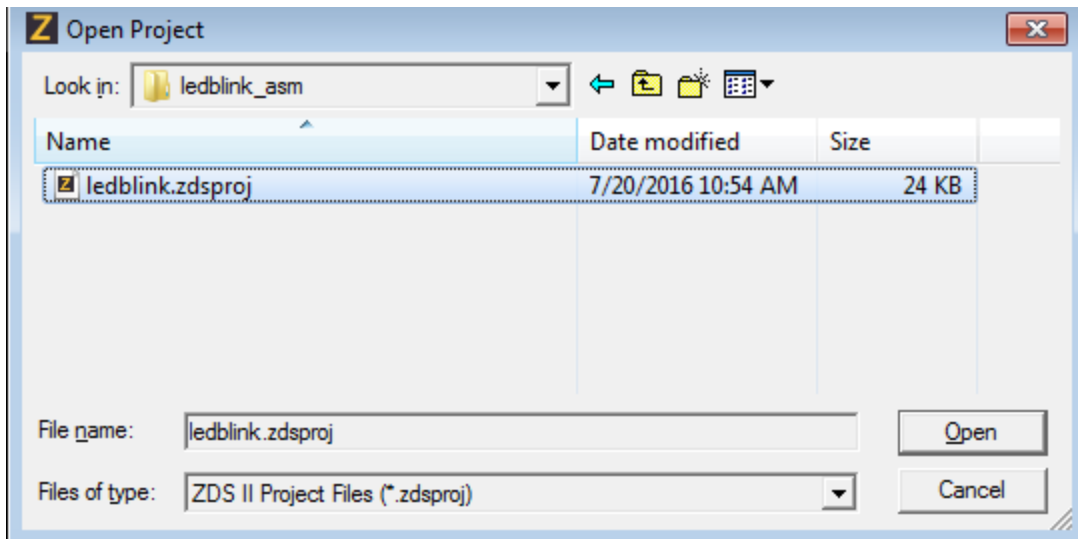

Figure 8. Select the `ledblink.zdsproj` Project
3. Select the `ledblink.zdsproj` project from within the `ledblink_asm` folder as indicated in Figure 8 and click **Open**. A list of source files will appear in the Work-space panel.